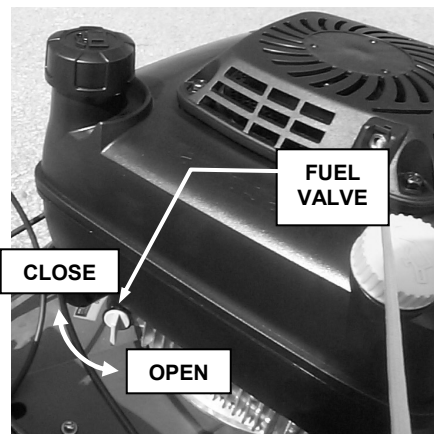

FIGURE 2.5
1. Make sure fuel valve on engine is open. See Figure 2.5.